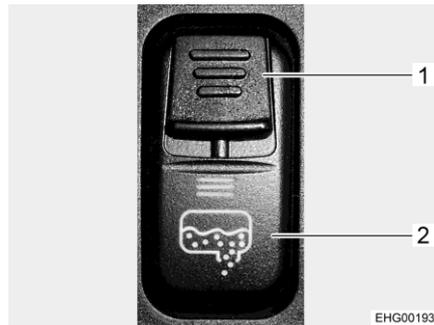

Fig. 133 Rocker switch (waste water drainage)
- Push the safety slide button (Fig. 133,1) on the rocker switch downwards and, at the same time, press the lower part of the rocker switch (Fig. 133,2). Doing this, the waste water valve is opened and the waste water tank is emptied. The LED is lit as long as the waste water valve is open.